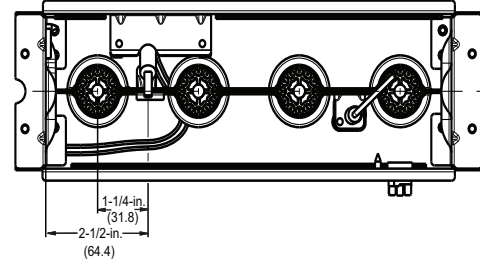
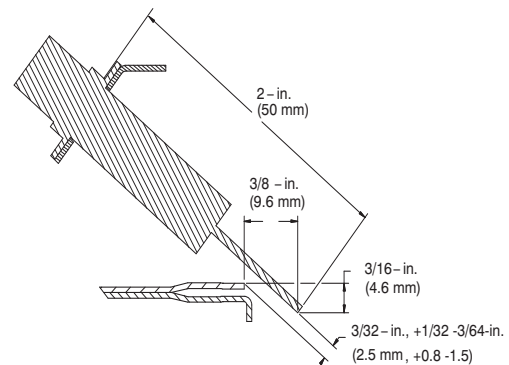

Fig. 8 – Igniter Position - Back View
Fig. 9 – Igniter Position - Side View
4. Verify igniter to burner alignment (see Fig. 8 & Fig. 9)